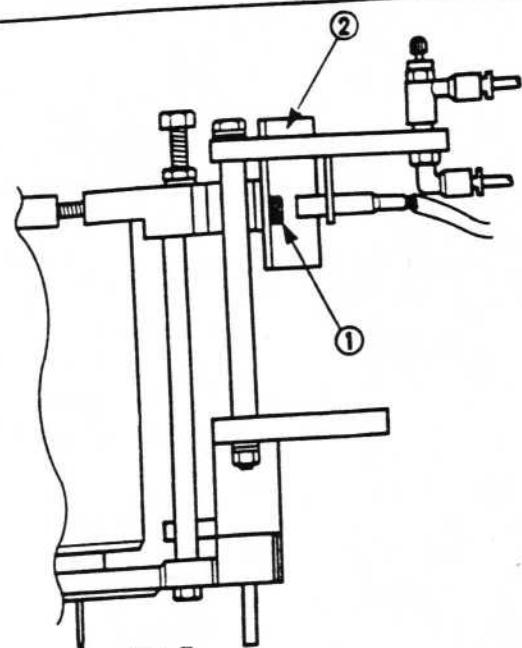
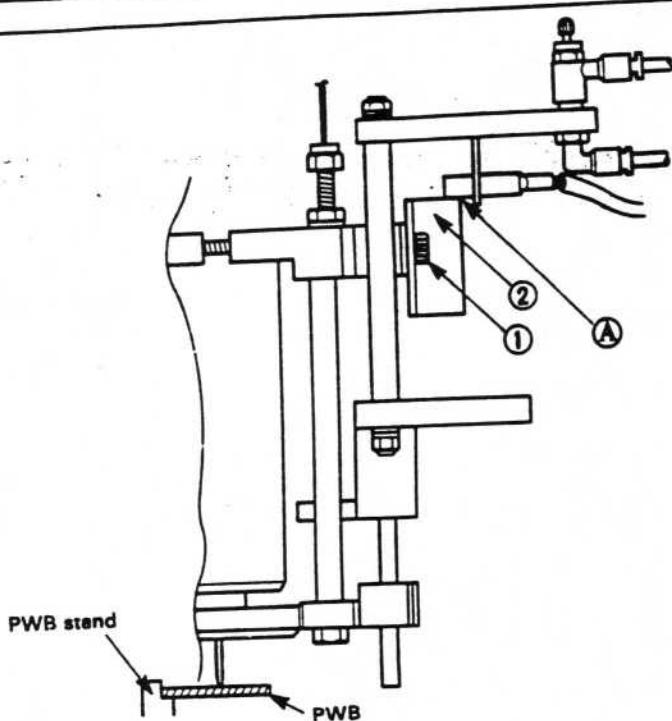

Fig. 7
Fig. 8
- (1) Adjust the needle height in accordance with "2. Needle height adjustment" above.
- (2) Loosen the screws (① x 2) so that the sensor plate ② can be moved freely (see Fig. 7).
- (3) Set the mounter main unit to TEACHING mode, switch ON/OFF the Head switch on the main unit's operation panel and operate the HEAD UP/DOWN.
- (4) Set a board on the PWB stand and switch to HEADDOWN (see Fig. 8).
- (5) Now adjust the sensor plate ② height with section (A) so that the height of the underside of the sensor and the sensor plate's ⑤ top end are level, and fix it in position with the set screws (①, x 2) (see Fig. 8).